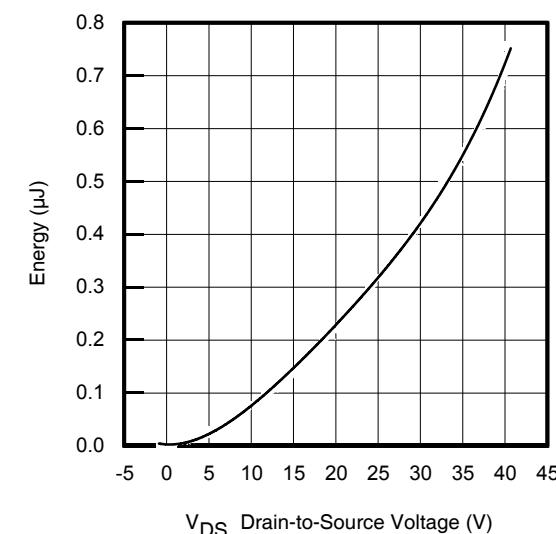

Fig. 11 Typical Coss Stored Energy
- ① Calculated continuous current based on maximum allowable junction temperature. Bond wire current limit is 100A by source bonding technology. Note that current limitations arising from heating of the device leads may occur with some lead mounting arrangements. (Refer to AN-1140)
- ② Repetitive rating; pulse width limited by max. junction temperature. (See fig. 11)
- ③ Limited by $T_{J\text{max}}$, starting $T_J = 25^\circ\text{C}$, $L = 0.051\text{mH}$, $R_G = 50\Omega$, $I_{AS} = 90\text{A}$, $V_{GS} = 10V$. Part not recommended for use above this value.
- ④ $I_{SD} \leq 90\text{A}$, $di/dt \leq 1304\text{A}/\mu\text{s}$, $V_{DD} \leq V_{(\text{BR})\text{DSS}}$, $T_J \leq 175^\circ\text{C}$.
- ⑤ Pulse width $\leq 400\mu\text{s}$; duty cycle $\leq 2\%$.
- ⑥ $C_{oss \text{ eff. (TR)}}$ is a fixed capacitance that gives the same charging time as C_{oss} while V_{DS} is rising from 0 to 80% V_{DSS} .
- ⑦ $C_{oss \text{ eff. (ER)}}$ is a fixed capacitance that gives the same energy as C_{oss} while V_{DS} is rising from 0 to 80% V_{DSS} .
- ⑧ When mounted on 1" square PCB (FR-4 or G-10 Material). For recommended footprint and soldering techniques refer to application note #AN-994
- ⑨ R_θ is measured at T_J approximately 90°C .
- ⑩ Pulse drain current is limited by source bonding technology.